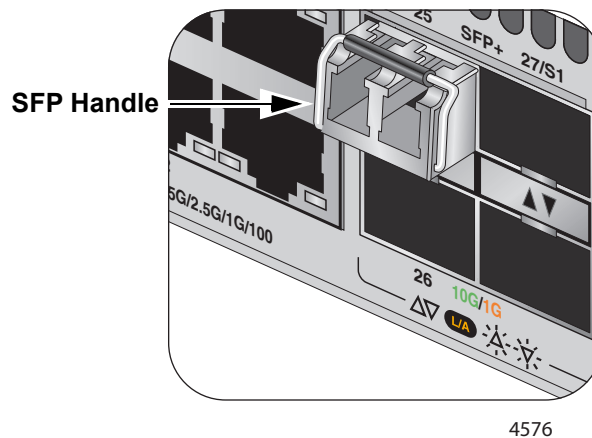

Figure 54. Positioning the SFP or SFP+ Handle in the Upright Position
5. Verify the position of the handle on the transceiver. If the transceiver is in a top port, the handle must be in the upright position, as shown in Figure 54. If the transceiver is in a bottom port, the handle must be in the down position.